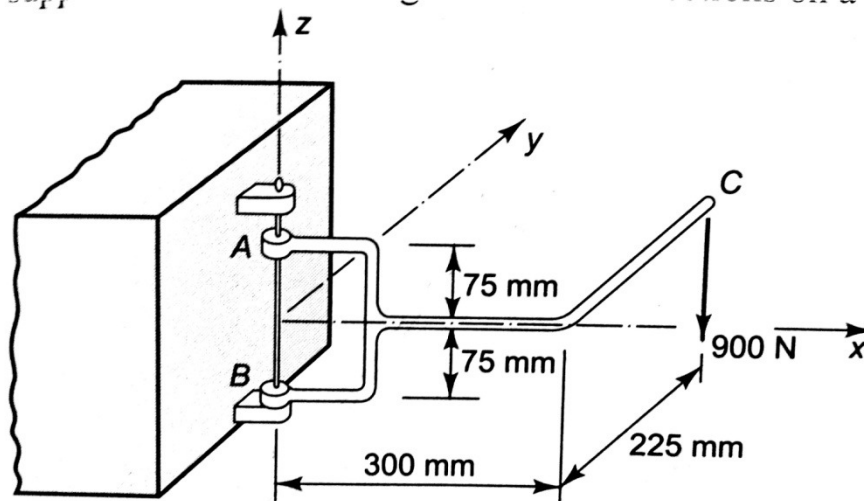

Figure 4
4. The bracket ABC is free to swing out horizontally on the vertical rod as shown in figure 4. Estimate the forces transmitted to the vertical rod at A and B when a 900 N load is supported at C.